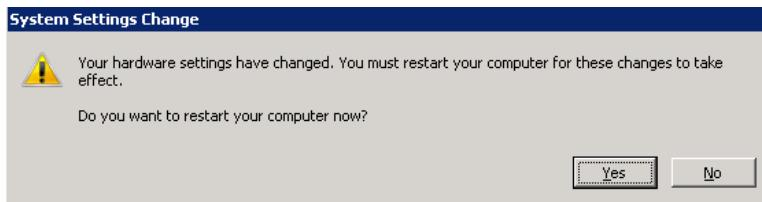

Figure 3-30. Prompt to Reboot
11. If a reboot is required to complete the driver installation or update, Windows will prompt you (Figure 3-30). If you are finished installing drivers for all ports, click **Yes**. Otherwise, click **No** and proceed with the installation.